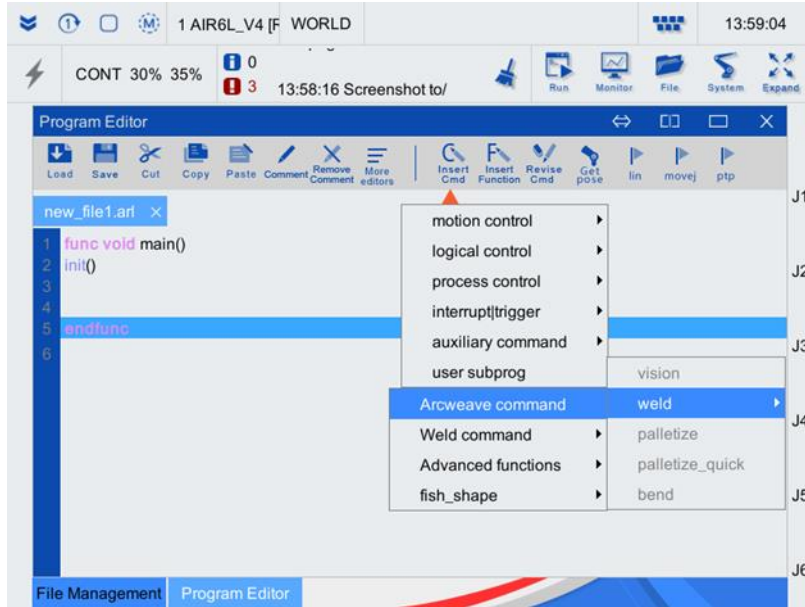

Fig. 7-1 Menu to insert weave instruction
Step 1. Open a new .arl program in the program editor, and click "Insert Cmd"->"Package"->"Weld"-> "Arcweave command", as shown in Fig. 7-1.